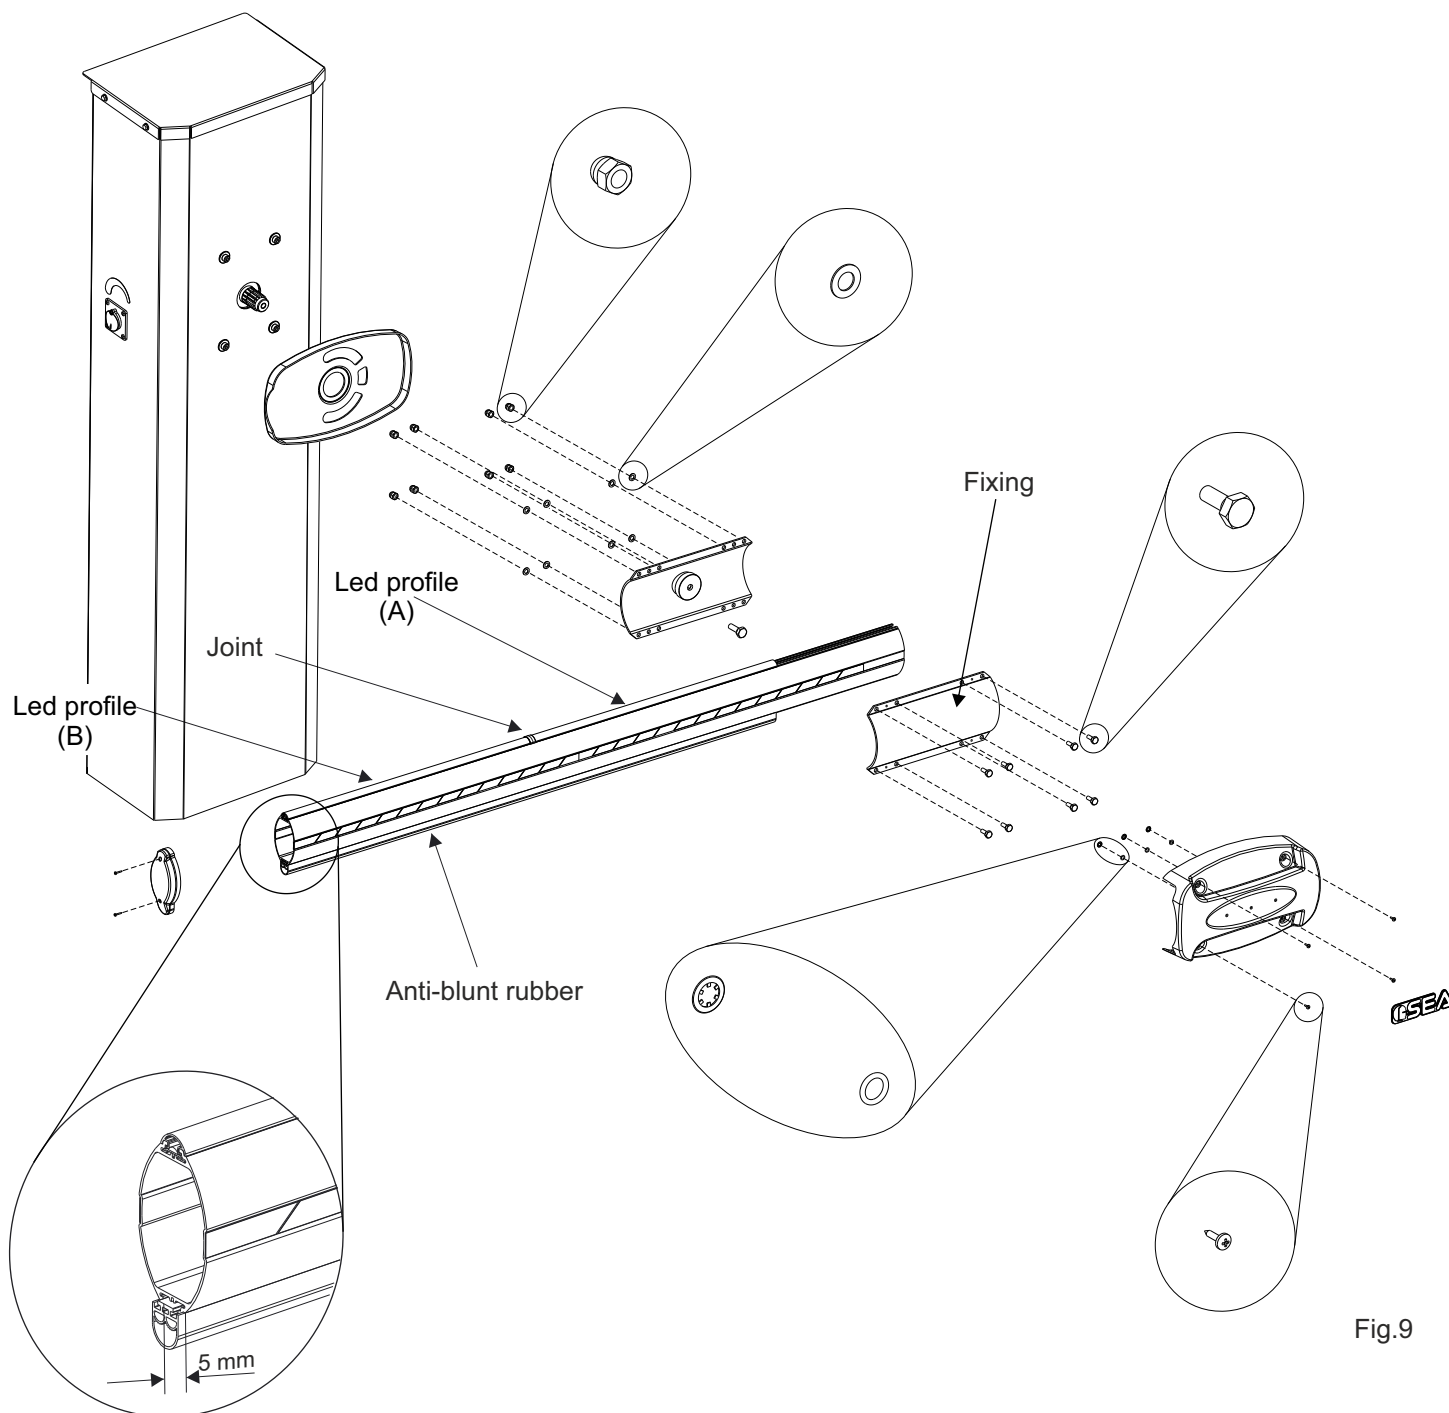

Fig.9
Mount the first segment (A) of the LED profile, positioning it in doorstop on the fixing, mount the joint, fit the second segment (B) of the LED profile and repeat the operation for all segments of the LED profile up to covering the length of the whole beam. The last profile LED must be cut with a hacksaw at the end of the rod (Fig.9-a). Intersperse each segment of the LED profile with a joint.
Mount the anti-blunt rubber so that it comes out from the beam about 5mm (Fig.9-a).